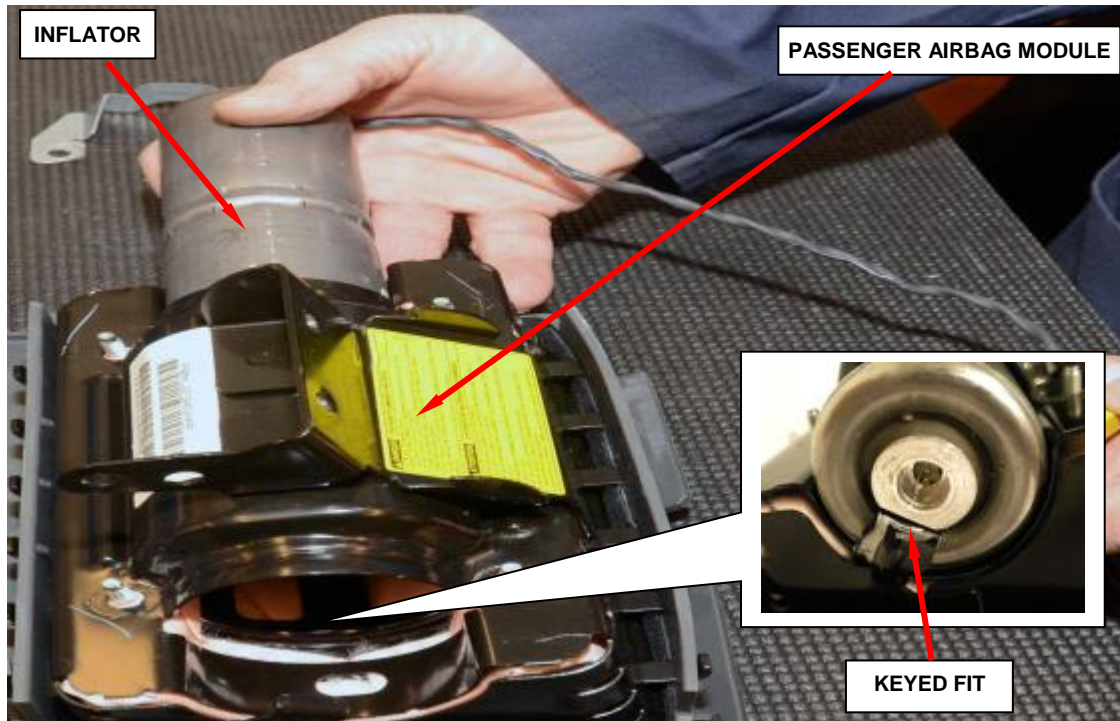

Figure 33 – Passenger Airbag Inflator to Housing
- f. Slide the inflator out of the passenger airbag module (Figure 33).
NOTE: The inflator’s key MUST line up with the housing’s key (Figure 33).
m. Slide the **new** inflator into the passenger airbag module (Figure 33).
NOTE: The inflator is keyed to fit into the housing (Figure 33).